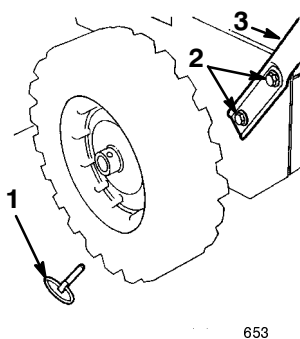

Figure 2
2. Remove the axle pins from both wheels and slide the wheels outward on the axle approximately one inch (2.5 cm) to make room for assembling the handles (Fig. 2).
5. Align the left handle mounting holes with the holes in the left side plate, and secure the handle with two cap screws and curved washers until they are finger tight (Fig. 2).